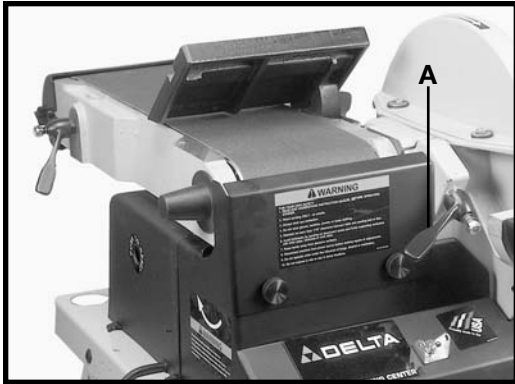

Fig. 12
The sanding arm is shipped in the horizontal position (Fig. 12). To move the arm to the vertical position:
1. Loosen the lock handle (A) Fig. 12. **NOTE:** Lock handle is spring-loaded and can be repositioned by pulling out the handle, moving it, and letting it spring back into position.